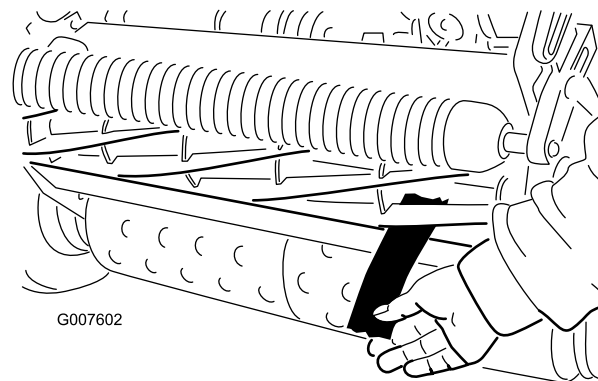

Figure 46
4. On one end of the front side of the reel, insert a long strip of newspaper between the reel and bedknife (Figure 46). While slowly rotating the reel forward,
6. After the adjustment is accomplished, check to see if the reel can pinch paper when inserted from the front and cut paper when inserted at a right angle to the bedknife (Figure 46). It should be possible to cut paper with minimum contact between the bedknife and the reel blades.